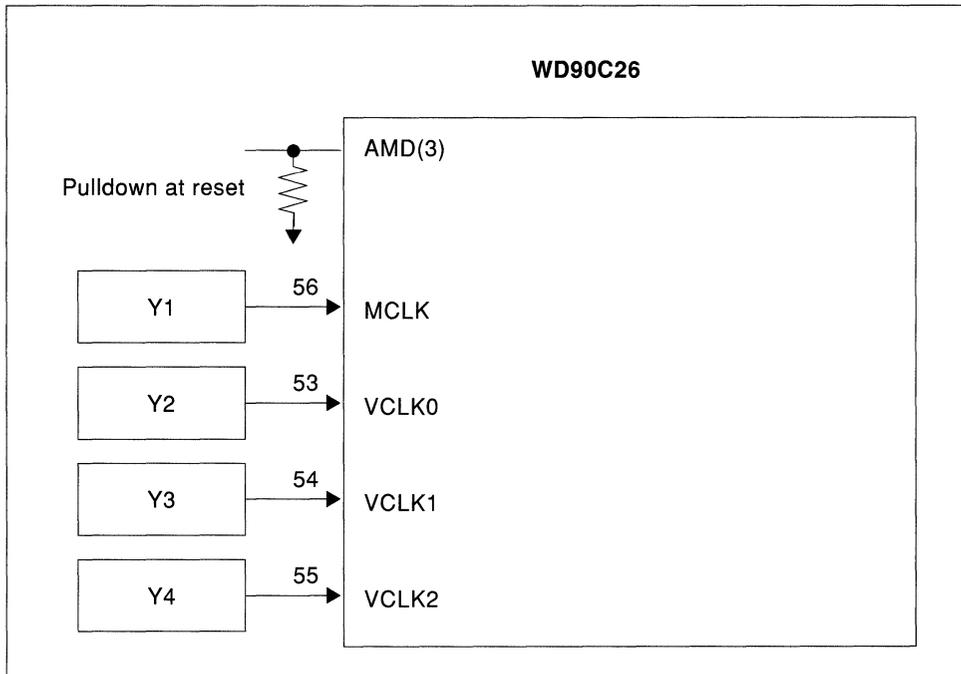

FIGURE 6-14 USING A WD90C26 WITH SEPARATE EXTERNAL CLOCK SOURCES
- Using a WD90C26 with an Separate External Clock Sources (see Figure 6-14).